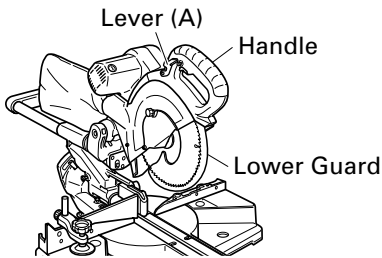

Fig. 7
- To lower the saw head to cut, the lock must be released by pressing the lever (A) with your thumb.
- (1) When you push down the handle while pushing the lever (A), check that the lower guard revolves smoothly (Fig. 7).
- (2) Next, check that the lower guard returns to the original position when the handle is raised.